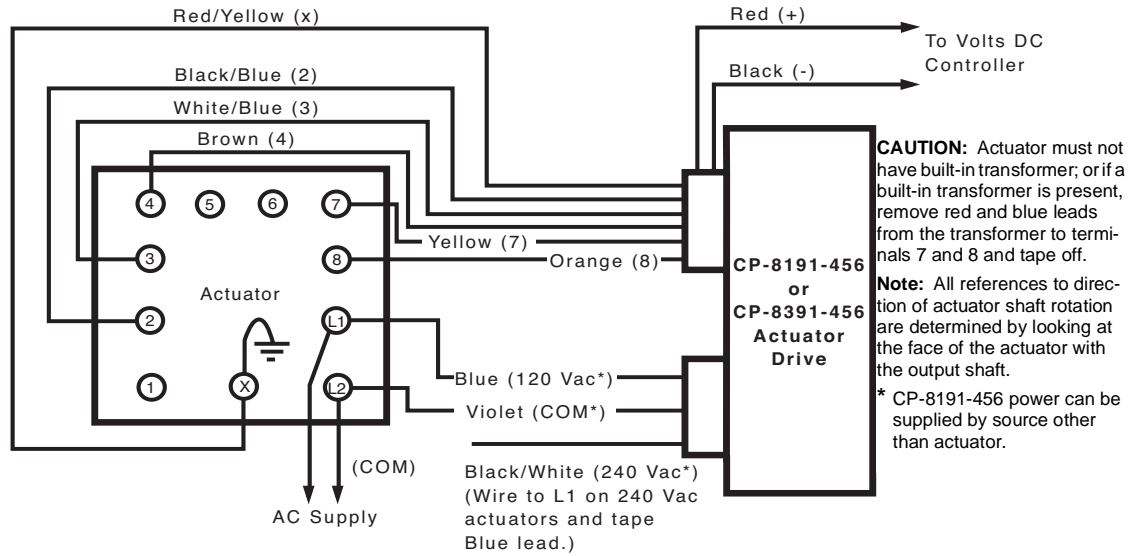
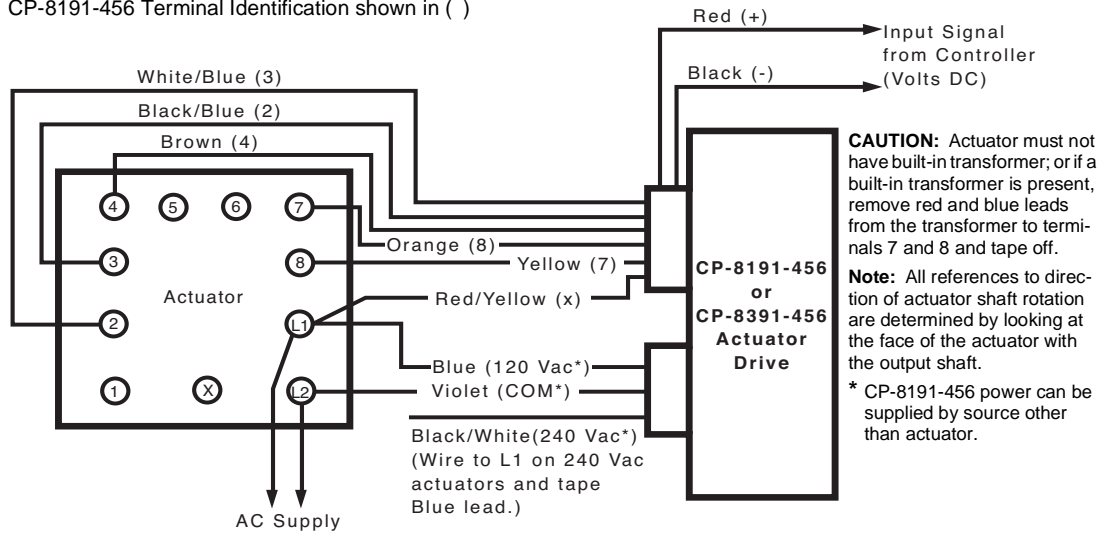
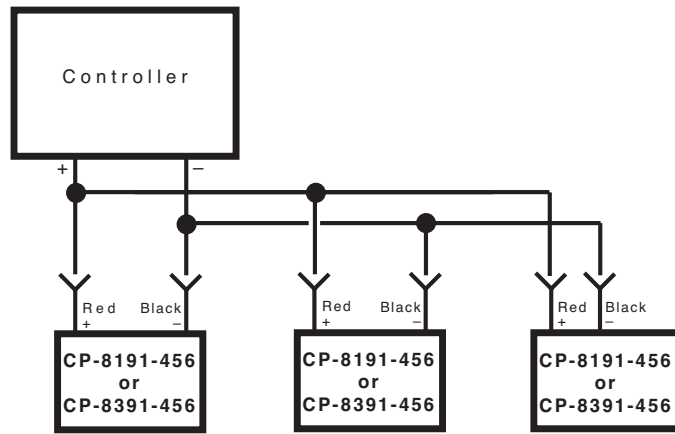

Figure-1 Typical Wiring Diagram, CP-8X91-456 to MP-4XX & MP-21XX Series and MP-9750 Actuators, Increasing Input Signal, CCW Actuator Rotation.
Figure-4 Installation Wiring Diagram, CP-8X91-456 to MP-98XX & MP-99XX Series Actuators, Increasing Input Signal, CW Actuator Rotation.
Figure-5 Wiring for Parallel Application.
The two input wires of the CP-8X91-456 which must be connected to the controller are coded Black (-) and Red (+), respectively. (See Table-3 and Figure-1 through Figure-5.)
**CP-8391-456:** When the CP-8391-456 is mounted on an electric actuator, all power is supplied by the electric actuator. (See Figure-1 through Figure-4.) Unused line voltage wire of the CP-8391-456 drive should be clipped and carefully insulated. (See Figure-1 through Figure-4.)
**CP-8191-456:** Power can be supplied by source other than the actuator. (See Figure-1 through Figure-4.) Wire to coded screw terminals.